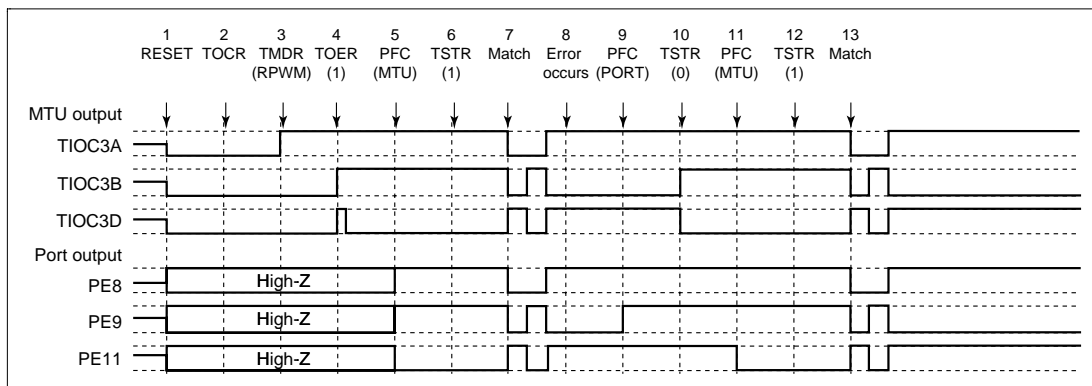

Figure 12.124 Error Occurrence in Reset-Synchronous PWM Mode, Recovery in Reset-Synchronous PWM Mode
(28) Operation when Error Occurs during Reset-Synchronous PWM Mode Operation, and Operation is Restarted in Reset-Synchronous PWM Mode: Figure 12.124 shows an explanatory diagram of the case where an error occurs in reset-synchronous PWM mode and operation is restarted in reset-synchronous PWM mode after re-setting.